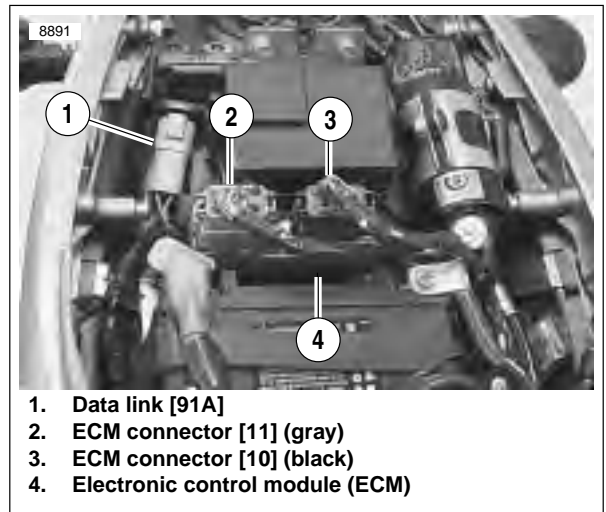

Figure 4-14. Electronic Control Module (Typical)
2. See Figure 4-14. Inspect connector [10] (black) (3) for contamination or corrosion. If connection is good, replace ECM. See 4.30 ELECTRONIC CONTROL MODULE.
3. Check continuity between instrument connector [39] Pin 7 and ECM connector [10] (black) (3), pin 4.